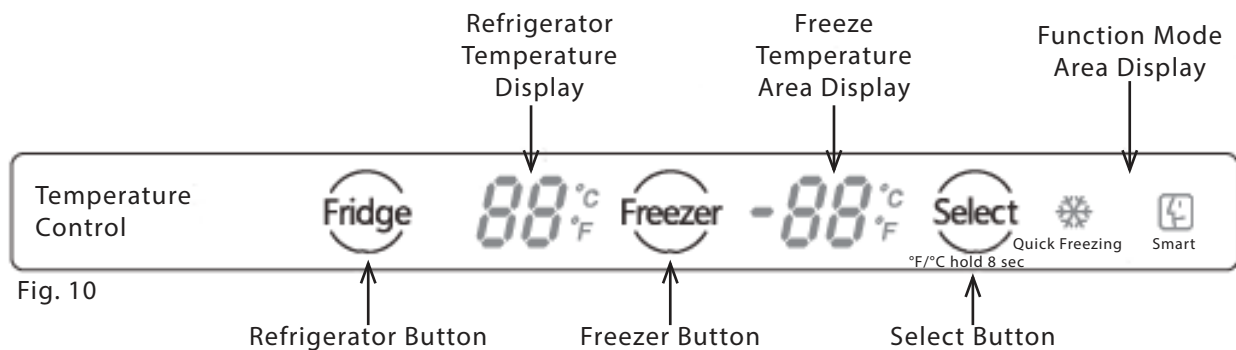

Fig. 10
- The below picture is a schematic diagram of the electronic display (Fig. 10).
- "Fridge" button (Fig. 10): To adjust the temperature of the refrigerating area, press the button.
- "Freeze" button (Fig. 10): To adjust the temperature of the freezing area, press the button.
- "Select" button (Fig. 10): With each press of the button (within 5 seconds), the function icon flickers. You can switch among quick freezing - intelligence successively. No operation within 5 seconds will end the function.
- Press the "Select Button" (Fig. 10) for 8 seconds, temperature display unit can be switched to Celsius or Fahrenheit, and the °F/°C light will turn on accordingly.
- The LED display turns bright when the door is open. Push the "Fridge" button (Fig. 10). The buzzer will ring. Then the refrigerating area turns into the setting condition. The temperature patterns flash and the temperature of the refrigerating area increase by 1. The temperature will recycle as "33" ~ "45".
- The LED display turns bright when the door is open. Push the "Freeze" button (Fig. 10). The buzzer rings. Then the freezing room turns into the setting condition. The temperature patterns flash and the temperature of the freezing room increase by 1. It will cycle from "5" ~ "-8".